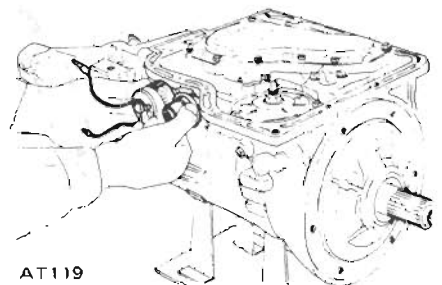

Fig. AT-53 Downshift solenoid and vacuum diaphragm
4. Remove downshift solenoid and vacuum diaphragm. Do not leave diaphragm rod at this stage of disassembly. Rod is assembled in top of vacuum diaphragm. See Figure AT-53.